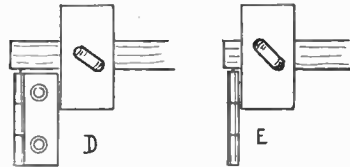

Fig 2
For hinging a door, first place the door in position, and insert a strip of paper under its lower edge to ensure that the door will not, when fitted on, scrape the frame when opened. Mark the position of the hinges by pencilling lines across both door and frame, the length of the hinges apart. If in doubt about a good position of the hinges, place them about a quarter of the length of the door, top and bottom, the quarter distance lines being in the middle of the hinges. Now set a gauge to the width of hinge and centre of pin, as at (D) Fig. 2. and run this down the edge of door and inside of frame. The guide lines, already drawn across the door and frame, should be now squared across the gauged lines. Set the gauge to half the thickness of the knuckle of the hinge, as at (E) and gauge down the